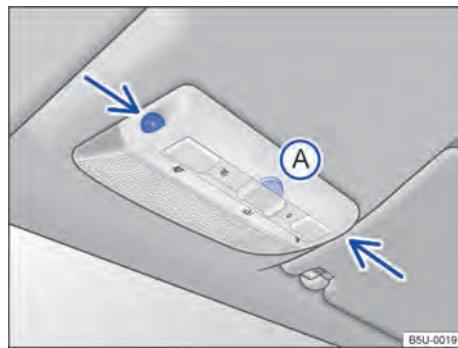

Fig. 46 On the roof console: sensors for the interior monitoring system and button **(A)** to turn off the interior monitoring system.
The interior monitoring system triggers the alarm with the vehicle locked in case movement is identified inside the vehicle. Both the sensor and receptor are located in the scan lamp set → **Fig. 46** (arrows).
- Press → **Fig. 46 A**. The indicator lamp  lights up on the dash panel.